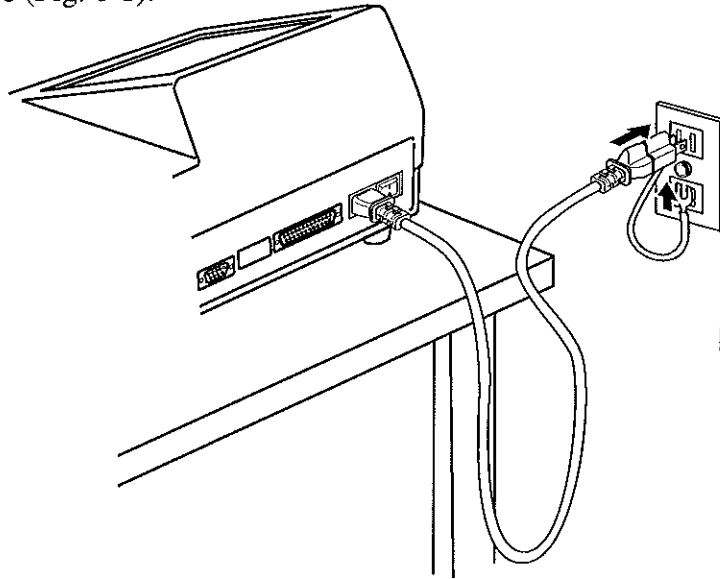

Fig.6-1
- (1) Plug the AC power cable into an indoor AC100 to 240V power outlet. At this time, be sure to connect the ground wire (Fig. 6-1).